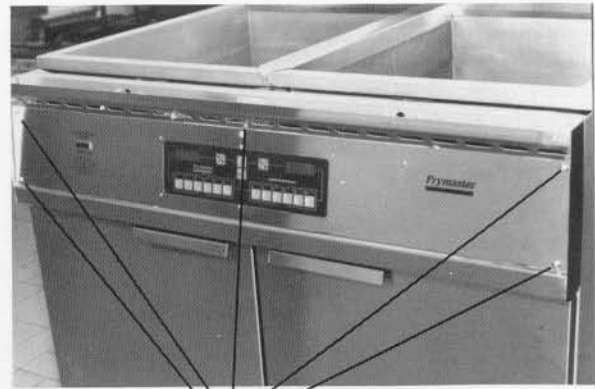

Figure 20
- Remove 5 control panel screws (Fig. 20).